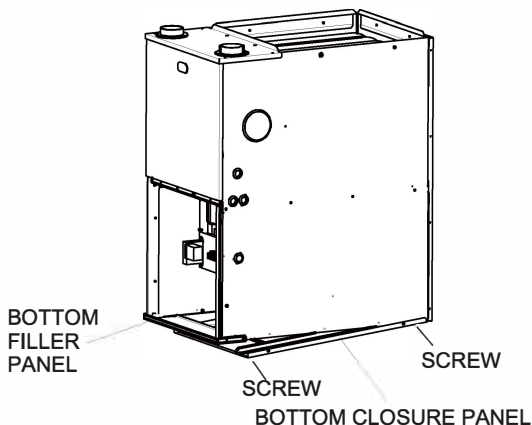

Fig. 6-1 Removing Bottom Closure Panel
1. Tilt or raise furnace and remove the screw holding bottom filler panel. (See Fig. 6-1.)